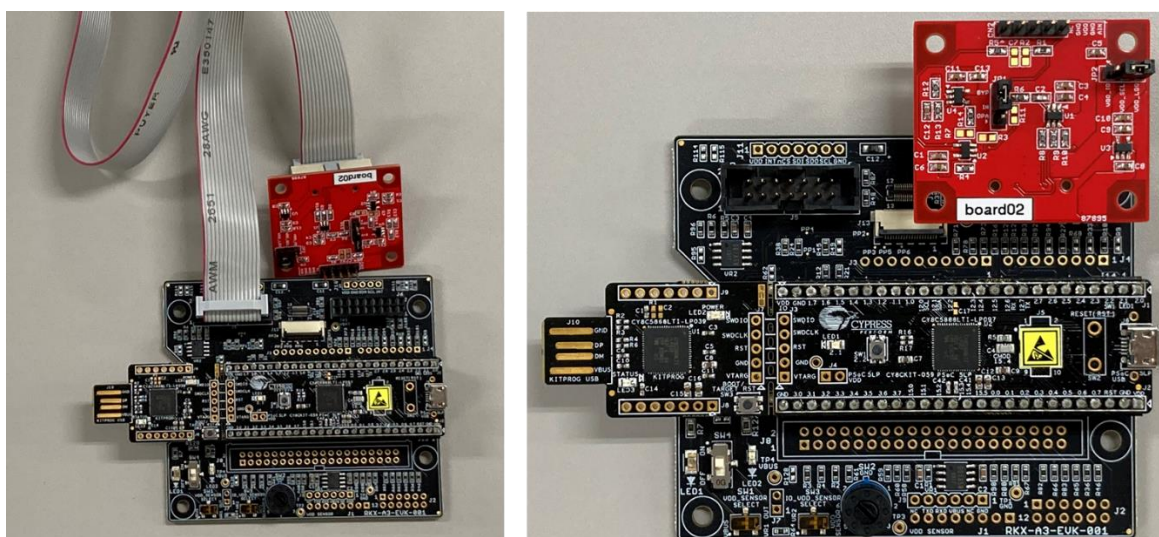

Figure 10. Interface with ADC Evaluation Board
Thus, there are two ways to conveniently connect the standard ADC Evaluation Board to the RKX-A3-EVK-001 – one is using the 14-pin ribbon cable plugged into J5 14-pin male header and another is by plugging the evaluation board directly into J6 18-pin female header (Figure 10).
- ◆ Attach the ADC Evaluation Board to the RKX-A3-EVK-001 either directly with the provided ribbon cable (Figure 10).